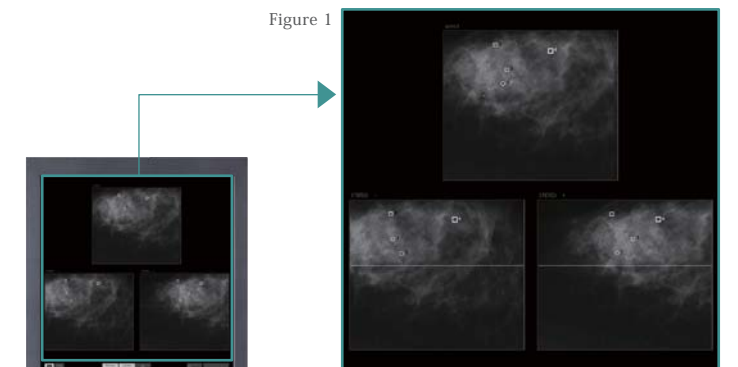

Figure 1
- Selecting the target on the scout image generates guide-lines on the stereo images which will help to determine correct positioning (Figure 1).